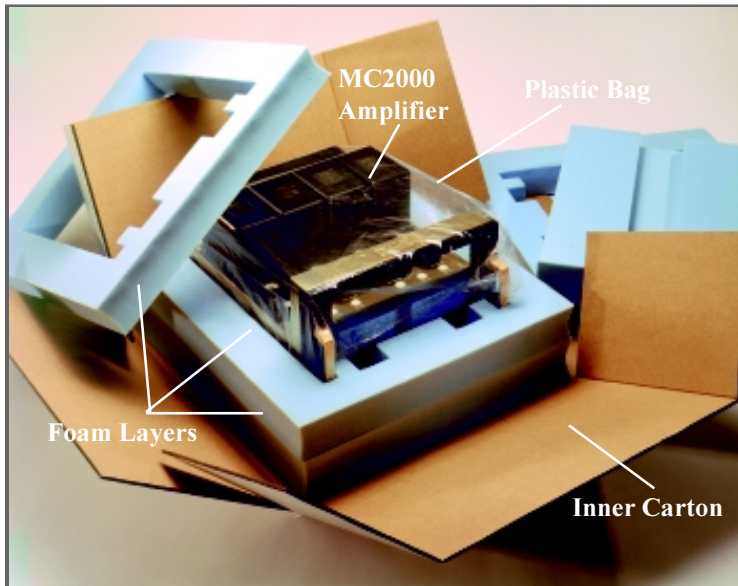

Figure 1
6. Lift off the individual layers of foam packing material from the MC2000. Refer to figure 1.